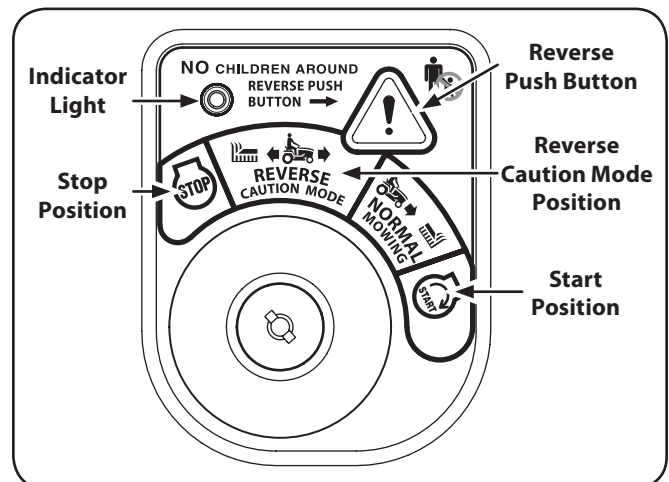

Figure 5-1
2. Turn the key from the NORMAL MOWING (Green) position to the REVERSE CAUTION MODE (Yellow) position of the key switch module. See Figure 5-1.
3. Press the REVERSE PUSH BUTTON (Orange, Triangular Button) at the top, right corner of the key switch module. The red indicator light at the top, left corner of the key switch module will be ON while activated. See Figure 5-1.